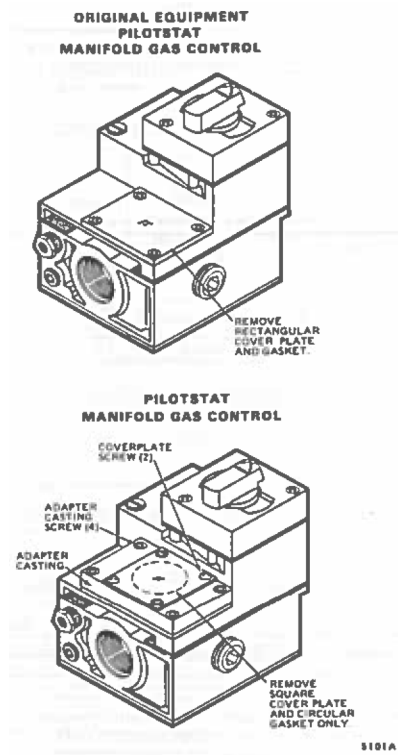
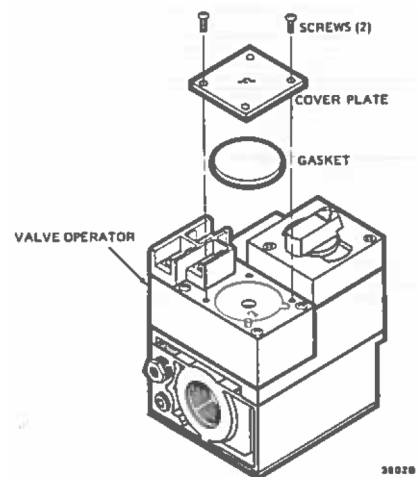

Fig. 3. Optional Pilotstat manifold gas controls.
Fig. 5. Exploded view of "B" model combination gas control showing blank cover plate.
The addition of a servo pressure regulator to an original equipment Pilotstat manifold gas control (top view, Fig. 3) requires installation of the adapter casting assembly, Part No. 394074.
1. Remove and discard rectangular cover plate and gasket (top view, Fig. 3) on manifold control.
1. Remove and discard blank regulator cover plate and gasket (lower view, Fig. 3 and Fig. 5).